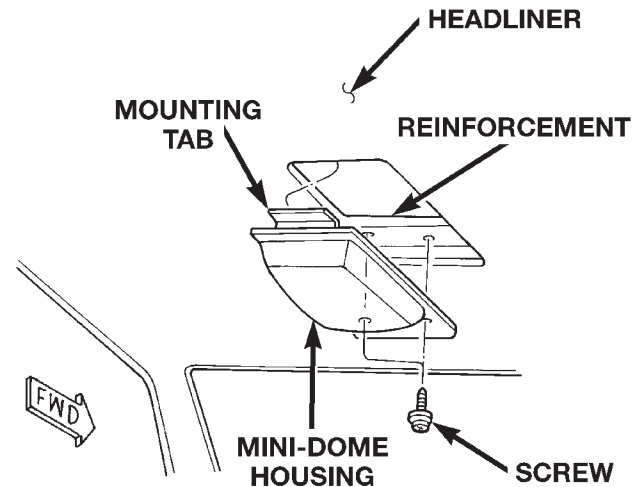

Fig. 6 Mini-Dome Housing Remove/Install
(1) Disconnect and isolate the battery negative cable.
(2) Remove the two screws that secure the Remote Keyless Entry (RKE) mini-dome housing to the roof panel reinforcement (Fig. 6).